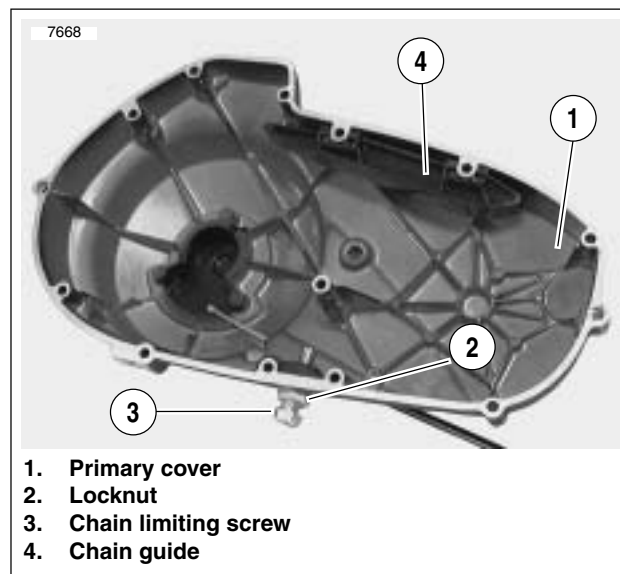

Figure 6-2. Removing Primary Chain Adjuster
6. See Figure 6-2. Loosen locknut. Turn chain adjuster screw counterclockwise (outward).
2. See Figure 6-2. Remove primary cover.